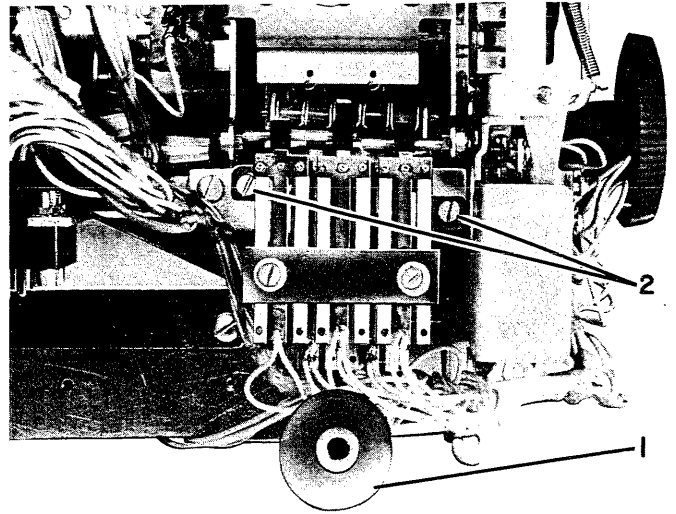

FIGURE 42. Operational Contact Removal
1. Remove the right rear mounting leg (#1, Figure 42).
2. Remove the two mounting screws (#2, Figure 42) and re move the contact assembly.